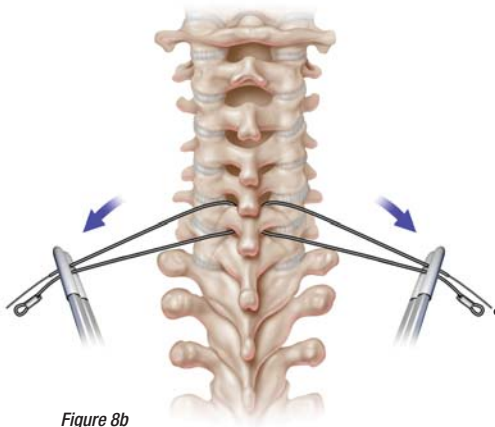

Figure 8b
- The tip of the leader is cut and the cables are separated laterally and clamped at each side of the wound (Figure 8b).